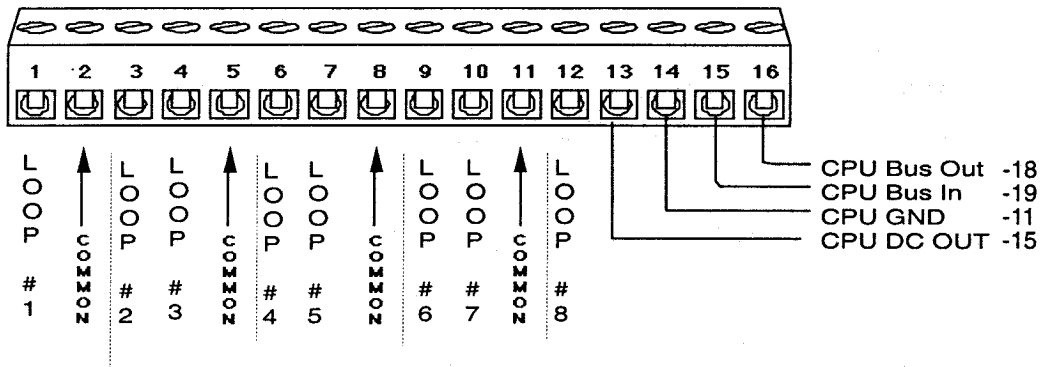

Figure 8.1. Terminal Connections
1. Using 22-gauge or greater wire, connect the HIM to the CPU (See Figure 8.1).